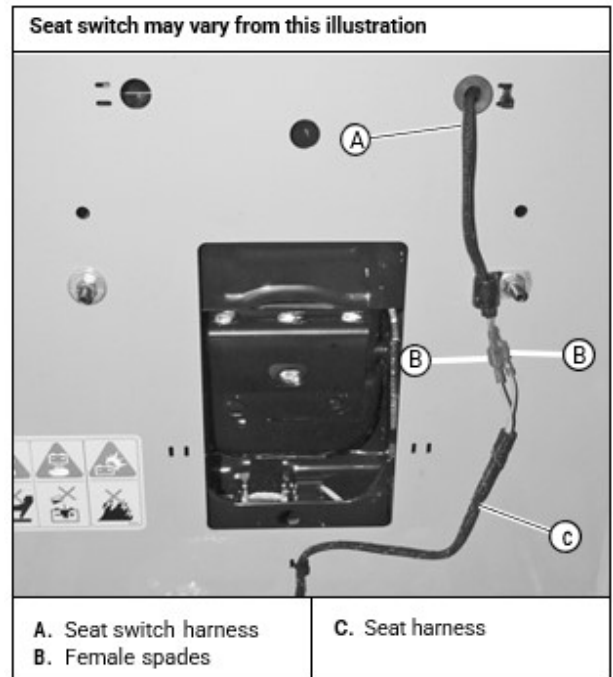

Figure 21
3. Raise the seat platform and disconnect the harness from the seat switch harness. Bypass the seat switch by connecting the two (2) harness female spades together. [Figure 21]
[Figure 21]